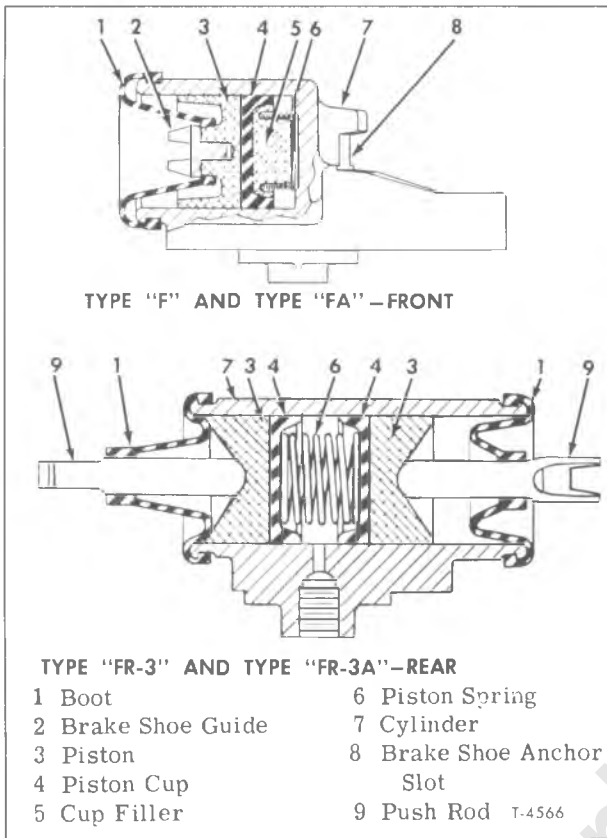

Figure 14—Wheel Cylinders Used with Type "F", "FA", "FR-3", and "FR-3A" Brakes
TYPES "F" AND "FA" (Fig. 14)
TYPES "FR-3" AND "FR-3A" (Fig. 14)
2. Assemble push rods and boots, then install on cylinder. Seat boots evenly in cylinder grooves. Align push rod slots as shown in figure 14.